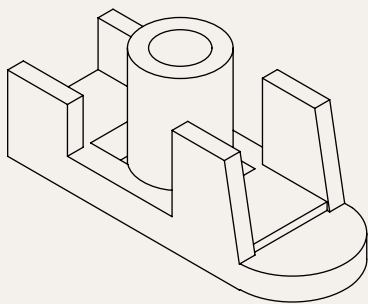
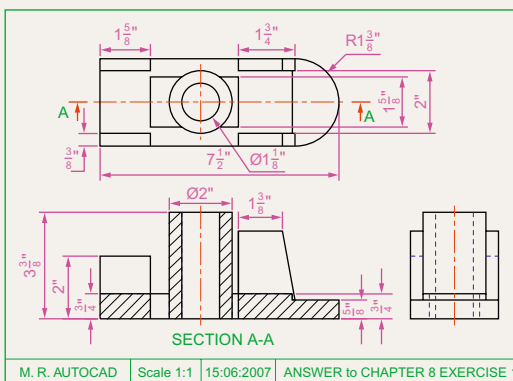

Fig. 8.19 Exercise 1 – a pictorial view
Fig. 8.20 Exercise 1
1. Fig. 8.19 is a pictorial drawing of the component shown in the orthographic projection Fig. 8.20. Construct the three views but with the front view as a sectional view based on the section plane A-A.